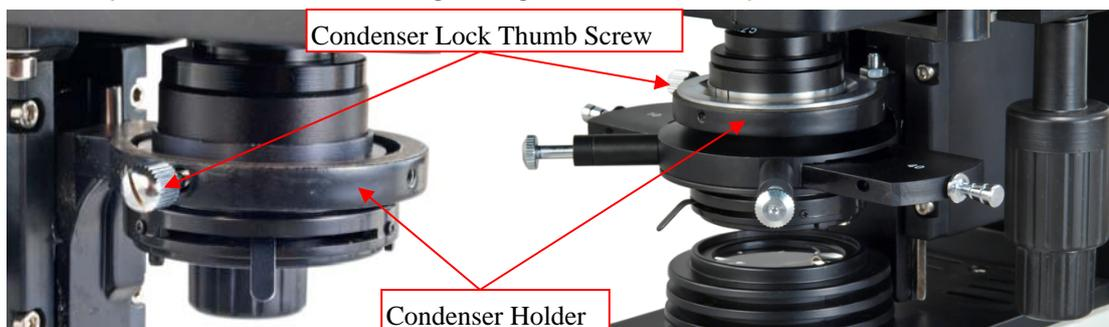

Fig.19
- e. Loosen the condenser lock thumb screw (**Fig. 19**), pull down the condenser and take it off.
- f. Insert the condenser/annular ring disk into the condenser holder, and tighten the thumb screw (**Fig. 19**).